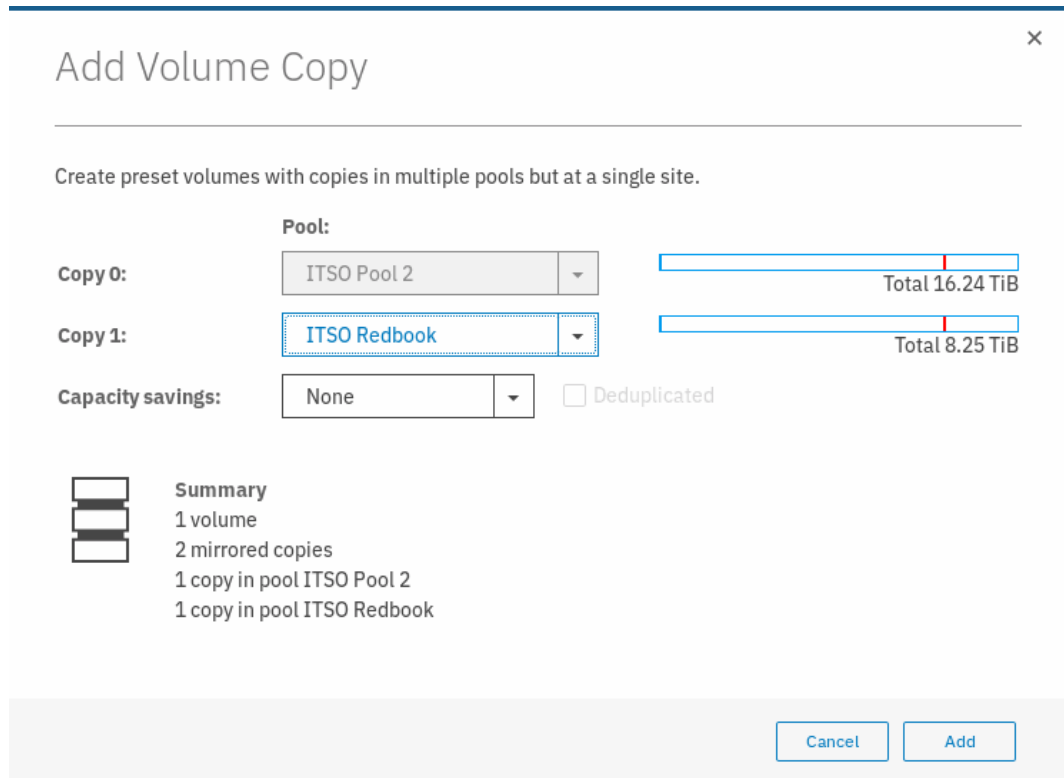

Figure 6-50 Add Volume Copy
2. Select the wanted pool into which a new copy is to be created, as shown in Figure 6-50.